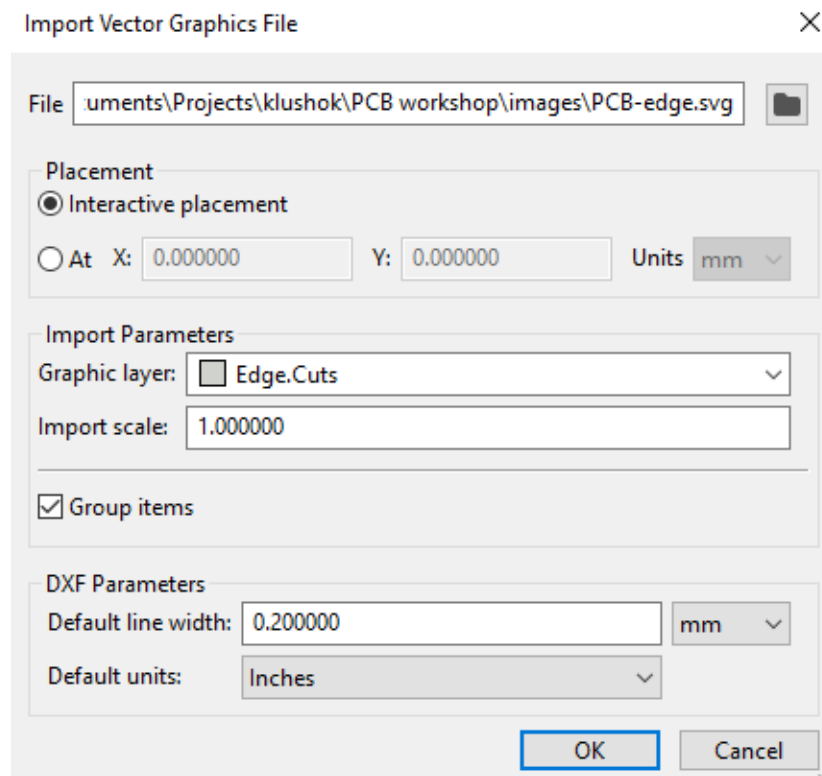

Figure 5
3. Select 'Edge.cuts' for option 'graphic layer' as shown in figure 5